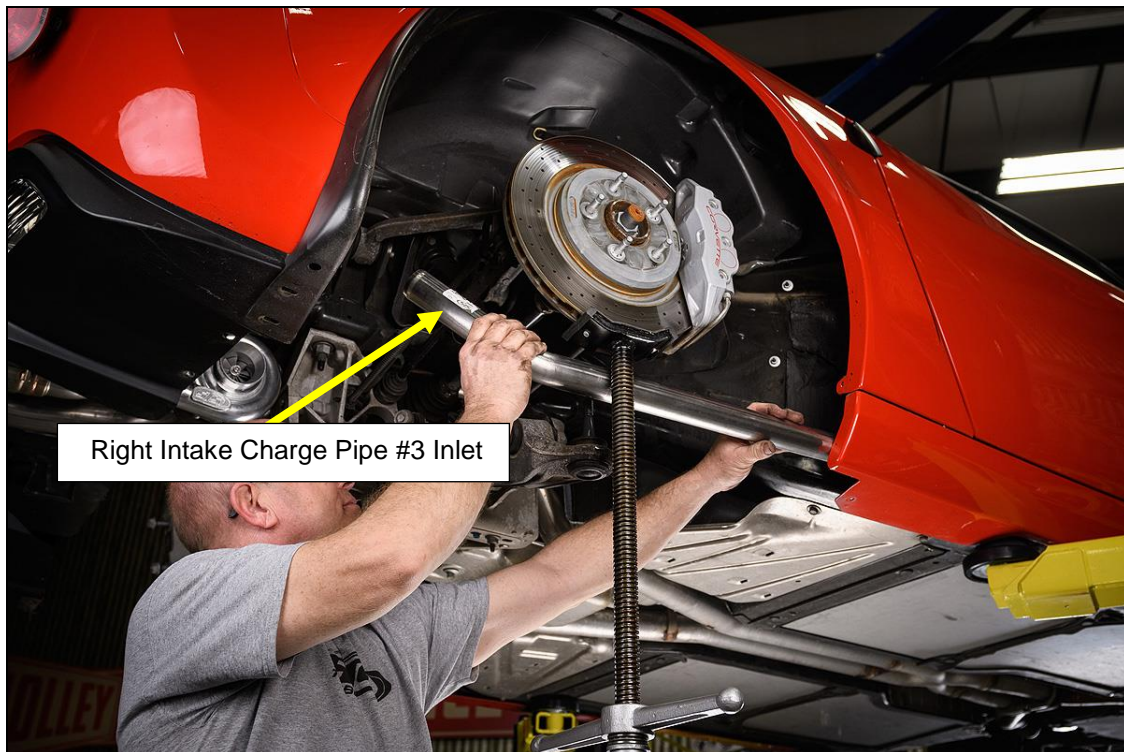

Figure 63
NOTE: It is necessary to separate the lower ball joint on the rear suspension to install intake charge pipes L3 and R3 (visual reference #9 and #19 page 6). See **Figure 63**.
8. Slide the left (driver's) and right (passenger's) intake charge pipes #3 (visual reference #9 and #19 page 6) between the suspension and into the rocker boxes. Check the orientation of the hose clamps on the outlet end of the pipe to be sure it clocked properly. Adjust if necessary (**Figure 63**).
10. Install a 1.750 x 3 silicone coupler on to the Inlet end of the left and right #3 intake charge pipes (**Figure 63**). Slide the coupler all the way on until even with the tube.